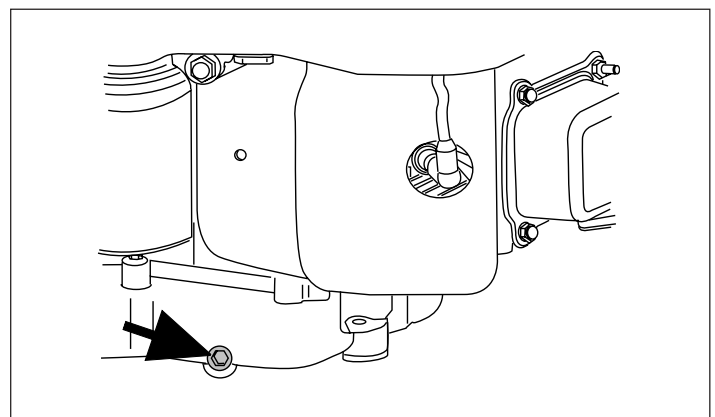

Figure 8. Oil Drain Plug Location
1. Be sure you find the correct drain plug location if present. (See equipment manufacturer's instructions). See Figure 8.
4. Clean area around oil drain plug. See Figure 8.
6. Remove oil drain plug and drain oil into an approved container. See Figure 8.